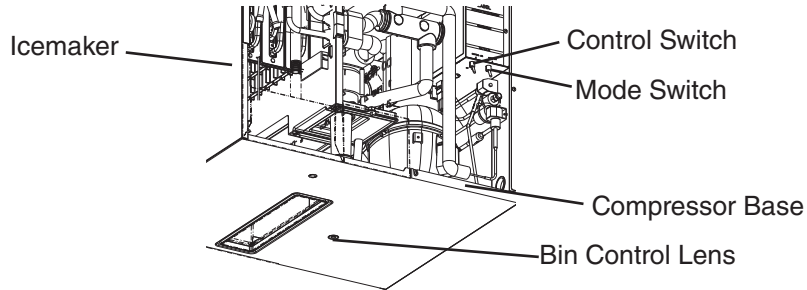

Fig. 21
- 6) 1 min. fill cycle begins. Place an object 5" to 7" (127 to 178 mm) away from the bin control lens. See Fig. 21. 15 sec. later, the icemaker shuts down. Remove the object from the bin control lens. 30 sec. later, the icemaker restarts. For bin control shutdown times per cycle, see the table below.